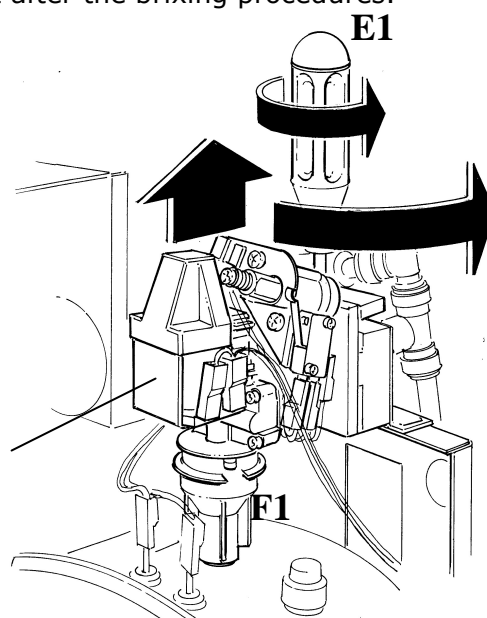

Fig. 8
• Now rotate the valve assembly 90 degrees and slide to the outside of the machine. Tighten the 8mm nut using a socket wrench E1 (fig. 8).